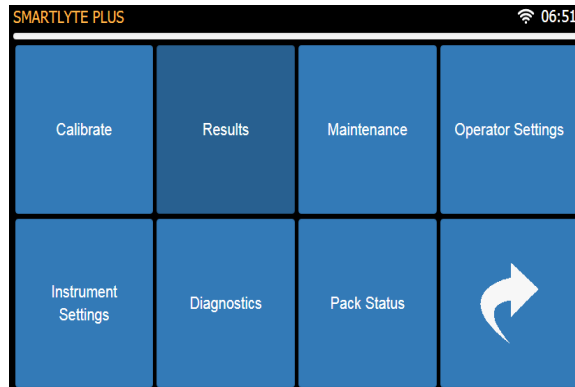
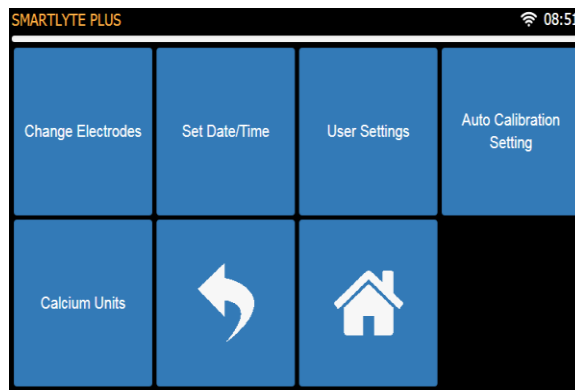

Figure 1-35 Main Operations Menu
Figure 1-36 Operator Settings Menu
Follow the steps below starting from the Main Operations Menu to login for the first time. (Figure 1-35)
- Press [**OPERATOR SETTINGS**] (Figure 1-35) then [**USER SETTINGS**] (Figure 1-36)